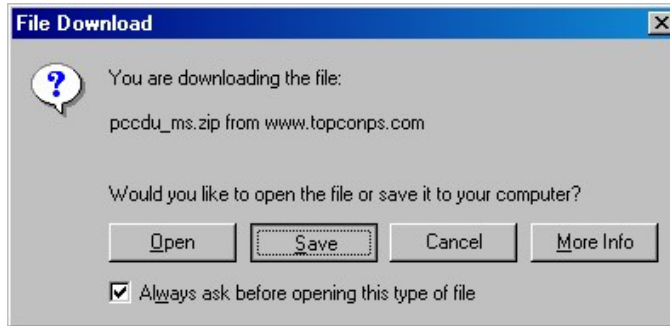

Figure 2. Dialog box "File Download"
3. The **File Download** dialog box will be opened. To continue the download process, press **Save** (Figure 2).